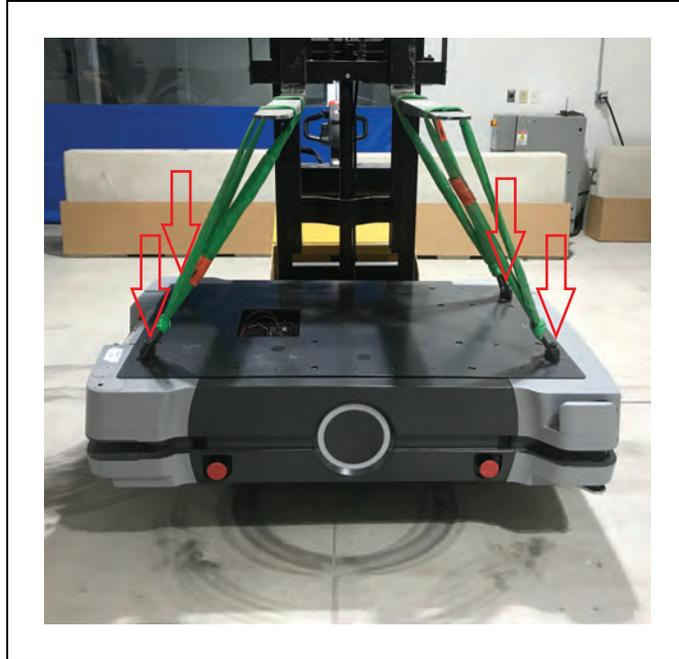

Figure 8-8. Attaching the Lifting Rings and Straps
1. Attach the OMRON-supplied lifting rings, using a 14 mm Allen wrench, to the locations shown in Figure 8-8. There are four bolt holes on the HD-1500 for attaching the lifting rings. Once the lifting rings are attached, tie and secure the strapsFigure 8-8.